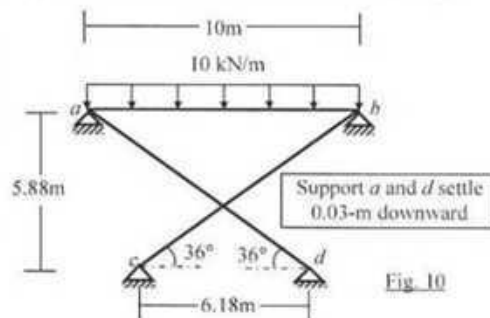

Fig. 10
12. Use the Moment Distribution Method to calculate the joint moments and draw the bending moment diagram of the frame  $abcd$  shown in Fig. 10, if in addition to the applied load, supports  $a$  and  $d$  both settle 0.03-m downward.